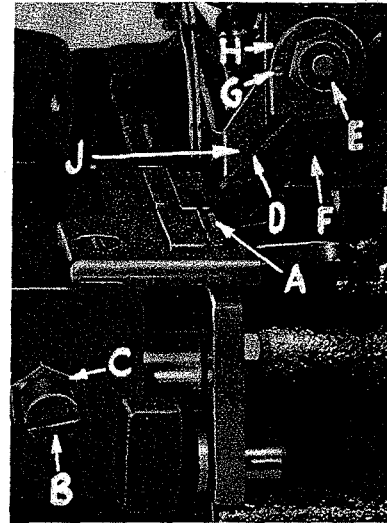

Fig. 12
Replace lower knife holder assembly. Lower knife (A, Fig. 12) should be set with cutting edge flush with throat plate surface. Adjustments are made with hexagonal head screw which holds lower knife. Lower knife is spring pressed against upper knife, so no lateral adjustment is necessary when width of trim is changed.
Replace upper knife assembly. Clamp upper knife (D, Fig. 12) in position, setting nut (E) to hold clamp (F) in its most clockwise position against upper knife. At bottom of its stroke, front cutting edge of upper knife should extend not less than 1/64 inch below cutting edge of lower knife. The chain guard (J) should be set down against the upper knife and slightly back from the cutting edge.